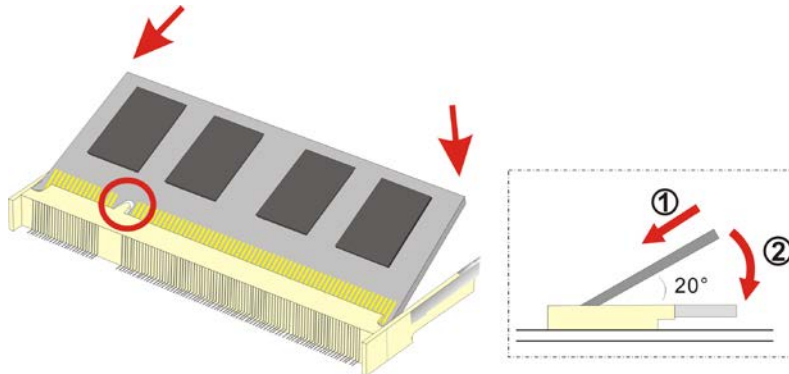

Figure 5-3: DDR SO-DIMM Module Installation
- Step 8:** Install the new DDR3 memory module by pushing it into the socket at an angle (Figure 5-3).
- Step 9:** Gently pull the spring retainer clips of the SO-DIMM socket out and push the rear of the DDR memory module down (Figure 5-3).